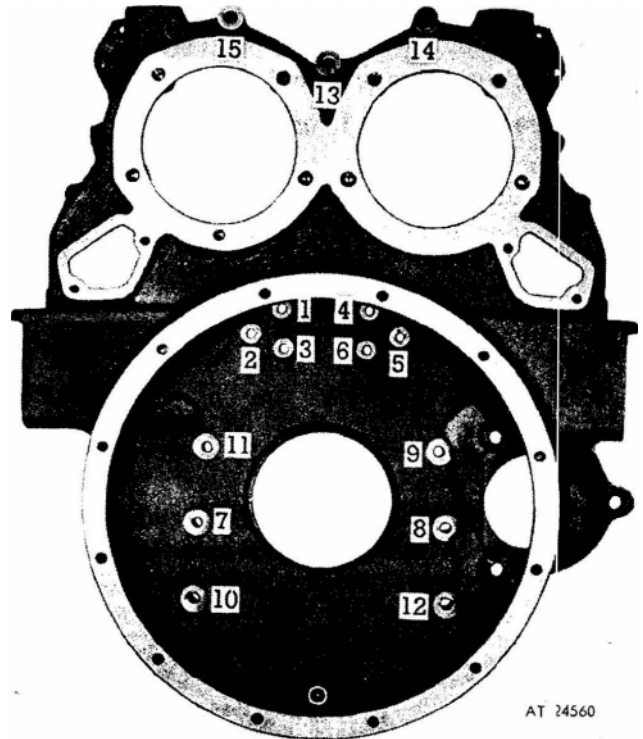

Figure 3. Flywheel housing bolt tightening sequence (operation 1).
8. Start at No. 1 and draw the flywheel housing bolts up snug in the sequence shown in Figure 3.